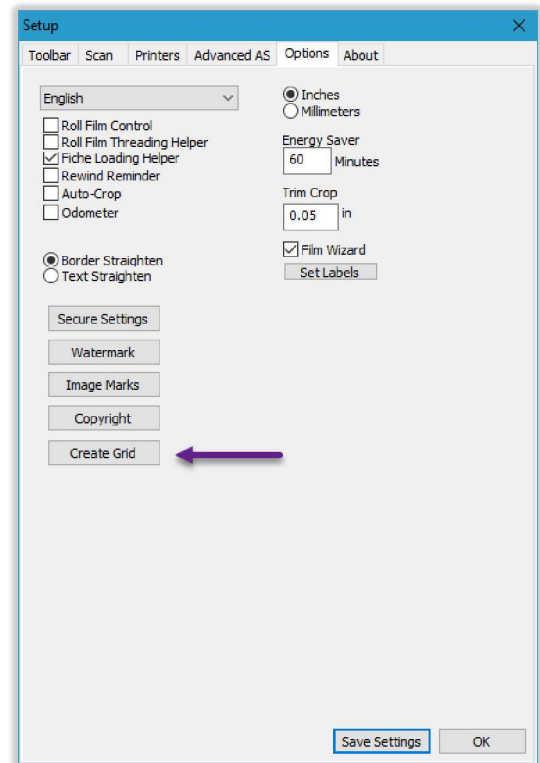

Figure 74
- Click the *Setup window Options* tab. *Figure 74*